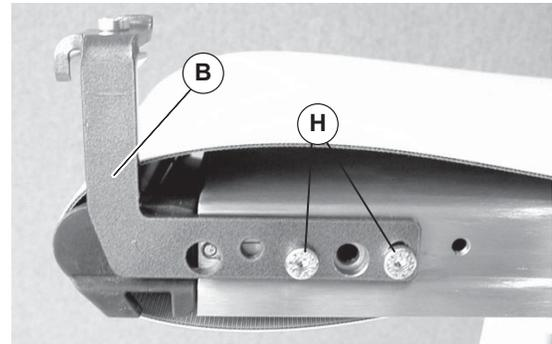

Figure 7
- Place end stop support (Figure 7, item B) on end of conveyor and attach with head plate screws (H) tighten to 57 in-lbs (6.4 N-m).